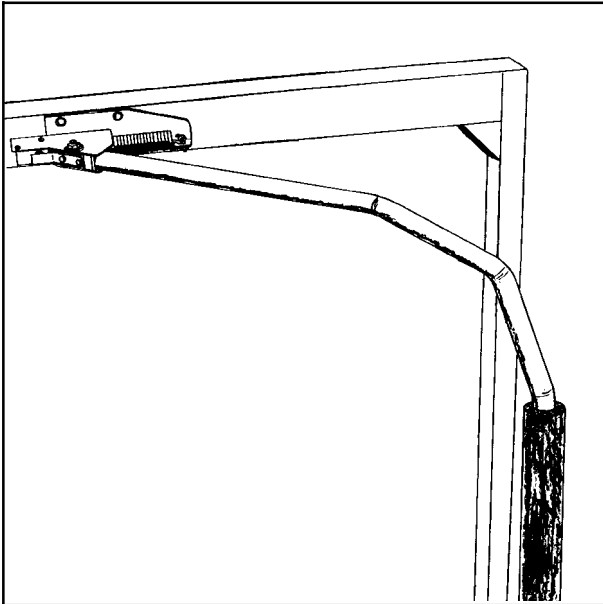

Fig. 5-1
- 5.4** It consists of a releaser hoop that activates a small electric switch. (See fig. 5-1).